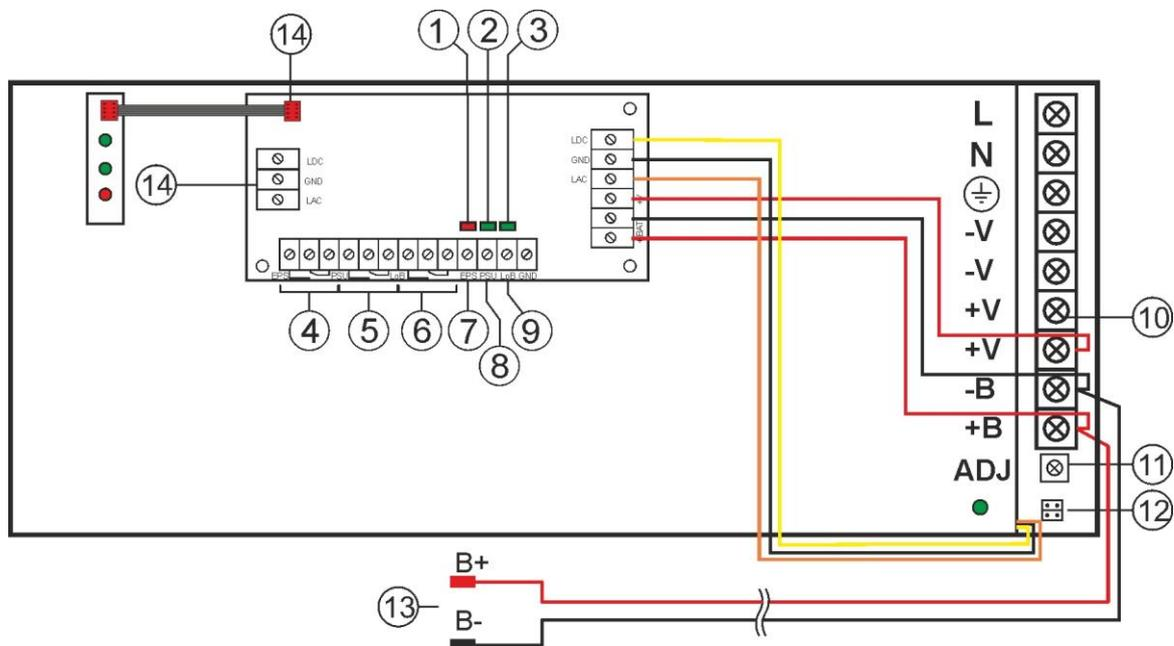

Fig. 2. The view of the PSU module.
1.3 Description of the module’s components and connectors (tab.1, fig.2).
Table 1. Elements of the module’s (see fig. 2).
- red LED (Fig.2, element 1) normal status (AC power): permanently illuminated. AC power absence is indicated by the AC diode going out.
- green LED (Fig.2, element 2) indicates DC power at the PSU output. Under normal status the diode is permanently illuminated. In case of a short circuit or an overload, the diode is off.
- green LED (Fig.2, element 3) indicates battery voltage level. Under normal status ( $U_{BAT} > 11,5V$ ) the diode is permanently illuminated. In case of decrease of battery voltage ( $U_{BAT} < 11,5V$ ) the diode is off.